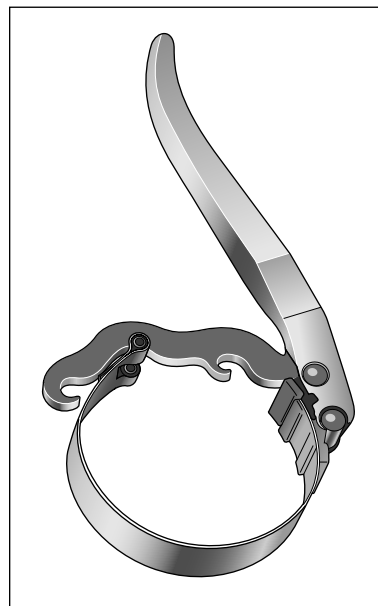

Figure 13-5: An oil filter wrench.
- ✔ **An oil filter wrench (optional):** Most oil filters screw on and off. If your old filter hasn't been changed in a long time, you may need an oil filter wrench, like the one shown in Figure 13-5, to unscrew your filter. *Always tighten the new filter by hand to avoid crushing the seal.*